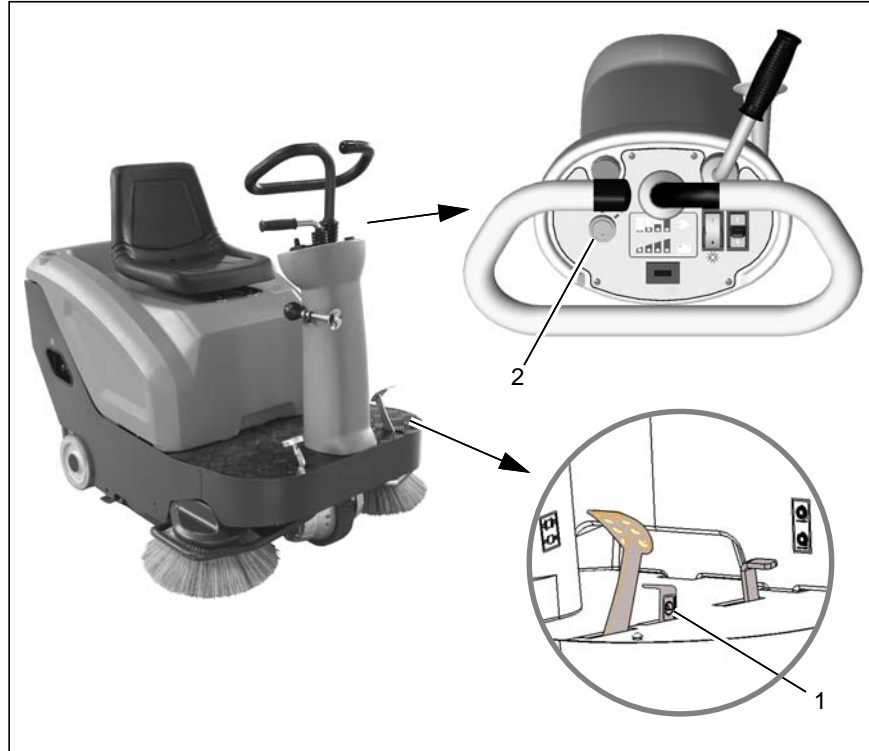

Fig. 10
2. The vehicle's parking brake must be applied (Fig. 10/1).
3. Switch the vehicle on with the key switch (Fig. 10/2).